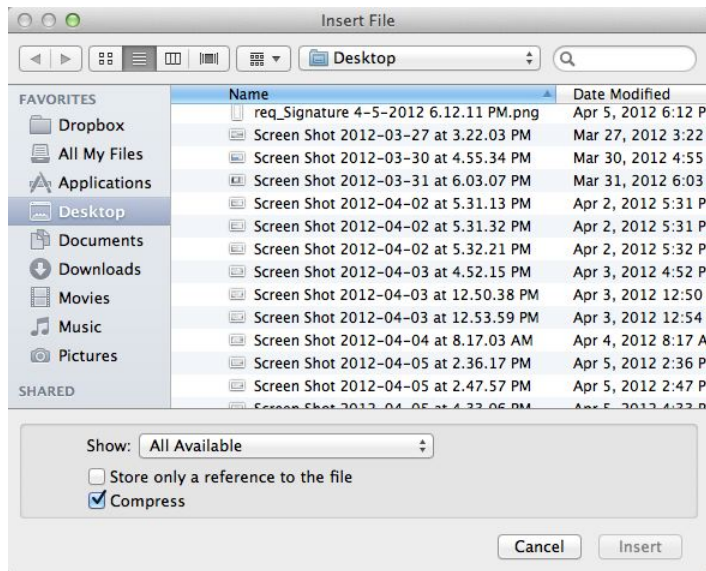

Figure 19. Use the **Compress** option (at the bottom of the **Insert File** dialog box) to compress files as they are inserted into a container field.
During scheduled backups, the first backup for a schedule is a complete copy of data (actual files). Each subsequent backup for that schedule copies only the files that have been edited, added or deleted, and creates hard links to the unchanged files. This means subsequent backups use only a fraction of the space needed by the original and complete faster (Figure 19).
2. Choose the **Compress** option (Figure 19).